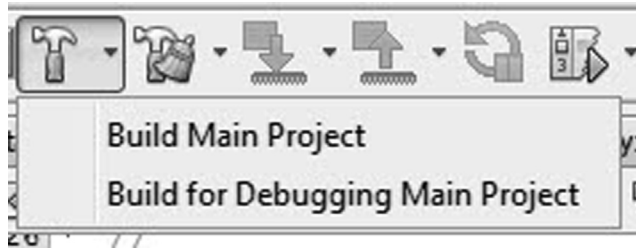

Figure 3.14: Compile for Debugging.
- Compile the program for debugging by clicking *Build for Debugging Main Project* (Figure 3.14).